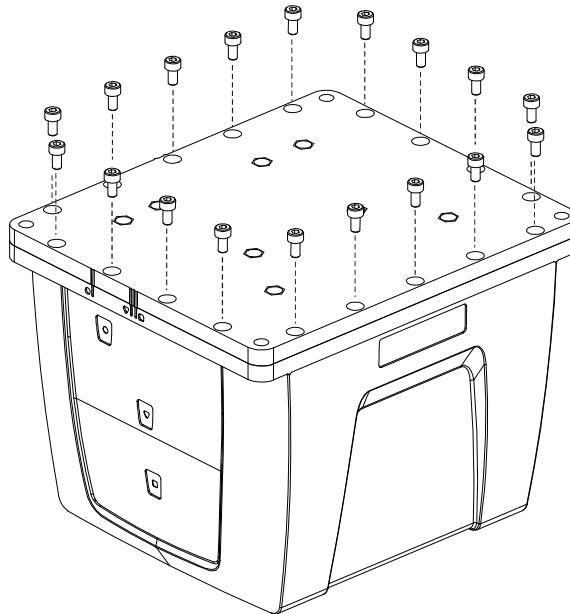

Figure 54: Screw Enclosure Base to Body
8. While squeezing and holding the enclosure body and base together to maintain tight contact, carefully turn the assembly over and place it on its top, as shown in *Figure 54*. Using a 3 mm hex bit, lightly fasten four equally spaced M4 screws to hold the parts together. Apply thread-locking fluid to each screw before inserting. Install the remaining screws in similar fashion. Tighten all screws then check all of them again for tightness. Tighten these screws to 1.36-1.58 N·m (12-14 lb-in). Do not over-tighten.